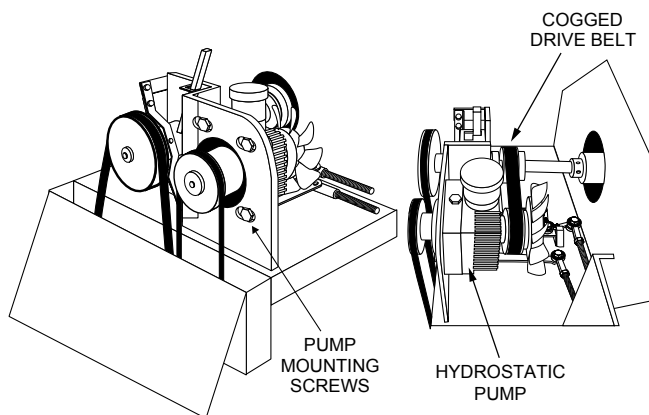

Figure 39. Hydrostatic Pump Drive Belt
- To change or adjust the cogged drive belt (Figure 39) for the hydrostatic pump, loosen the four mounting bolts on the hydrostatic pump.